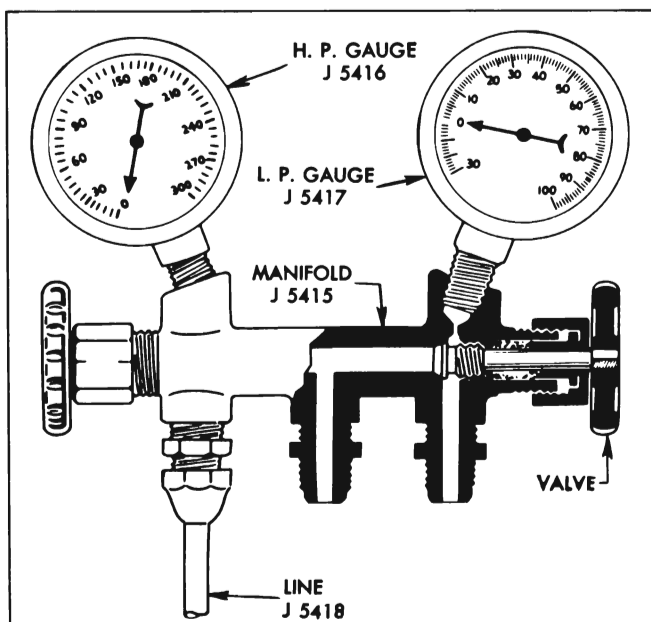

Figure 11-60—Pressure Gauge Set
2. Using adapters J-5420, connect charging lines of pressure gauge and set Manifold J-5415 to schrader valves as shown in Figure 11-128 with both valves of manifold closed. See Figure 11-60.